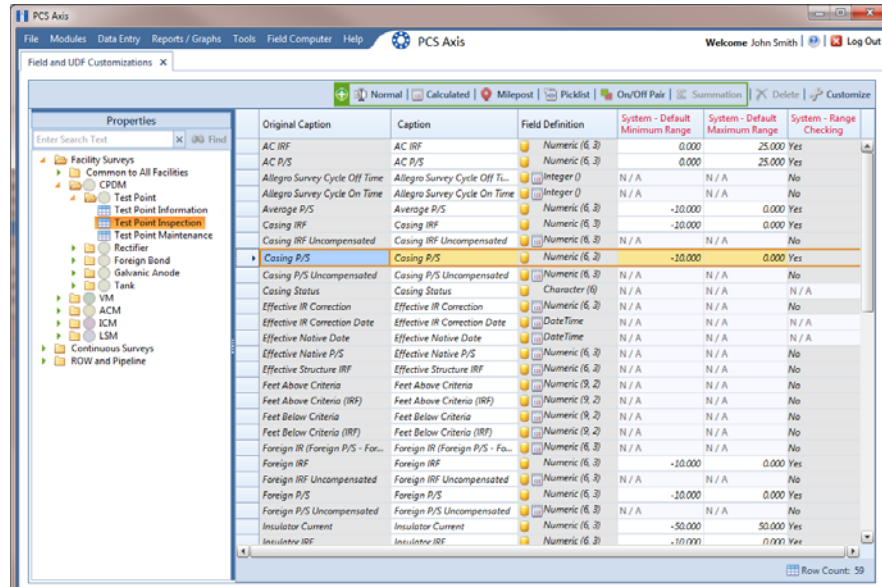

Figure 3-35. Field and UDF Customizations
For example, double-click **Facility Surveys > CPDM > Test Point > Test Point Inspection**. The grid displays related fields and property settings for the *Test Point Inspection* data entry grid (Figure 3-35, page 78).
- 4 Select the inspection field you want to set up for range checking. For example, select *Casing P/S* as shown in the following figure (Figure 3-35, page 78).